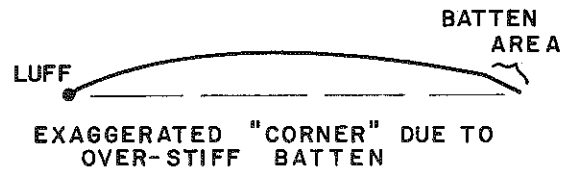
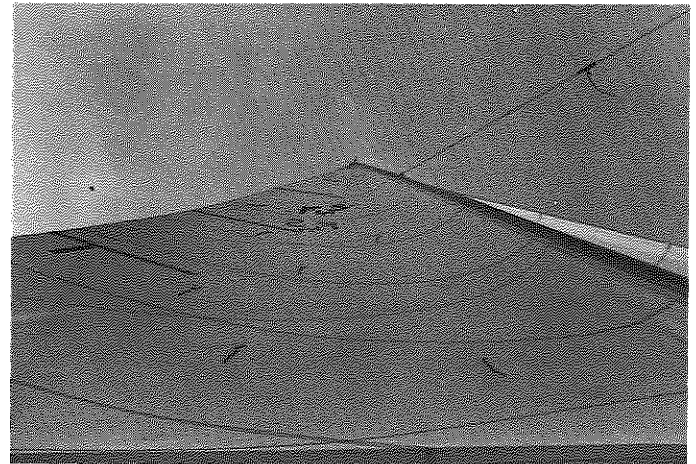

FIGURE 3
FIGURE 5
up the jib. Moving the lead aft eases the leech tension and allows the top to "twist off" a little (useful in heavy air), while moving it forward produces the opposite effect. Halyard tension primarily affects jib luff tension when the main sheet is eased, as when sailing off of the wind. Low jib luff tension allows the forestay to sag which increases camber in the front of the jib; this can be good on a reach but is bad when beating to weather. Batten stiffness and taper should be adjusted to obtain a flat jib leach area with a smooth transition into the body of the sail; i. e. no corners at the front of the battens; see Figure 3.
The controls for the main sail are: (1) main sheet, (2) boom vang, (3) halyard tension, (4) cunningham, (5) foot tension and (6) batten stiffness and taper. Some mains have a zipper foot which provides additional draft control in the lower part of the main. No discussion of the zipper foot will be included in this article. The function of the main sheet is to control the position of the boom in relation to the center line of the boat. The boom vang controls the height of the boom tip and thus the leech tension and twist in the main. Halyard tension primarily affects luff tension; however, it will cause slight mast bend. High luff tension will move main sail draft forward while low luff tension will shift the draft aft. Steve Colgate has an excellent presentation of the effects of luff tension in his article beginning on page 42 of the February 1972 issue of "SAIL". The Cunningham is a method of achieving additional temporary luff tension, such as when beating to weather. Foot tension is applied by the outhaul which must be readily controllable. The position of the clew is controlled by the amount of tension applied to the foot by the outhaul. Clew position will control the amount of draft in the lower half of this sail. Low tension will produce more draft, conversely, high tension produces a flatter sail. Battens should be sufficiently stiff to produce a straight leach yet have adequate taper to produce a smooth blend with the unbattened sail. Stiff battens with no taper will produce "corners" as shown in Figure 3, and 5.
The skipper and crew must get to know and understand the set of each sail in order to achieve the most from it. One aid to understanding sail shape is the camera. It does not have to be an expensive, fancy camera. Pictures taken from on the boat, such as the ones shown in Figures 5 and 6, will help in understanding sail shape. (These pictures were taken with the boat on the trailer in a 5 knot breeze — poor results.) Note, the window in the jib for "reading" the leeward "woolie". The top batten in the main has insufficient taper and causes the "corner" shown in Figure 3. Horizontal tape stripes were put on the main to aid in determining the draft and general shape of this sail. A defect not shown in Figures 5 or 6 are: (1) jib leech curl or hook (see Figure 7.) and (2) hooked main leech due to an over tight leech. The hooked jib leech backwinds the main as well as disturbs the flow of air over the jib resulting in a loss in propulsion efficiency. The hooked main is especially harmful in heavy air. The damaging effects of both can be remedied to some degree by the sail set; however, some sails may require re-cutting.